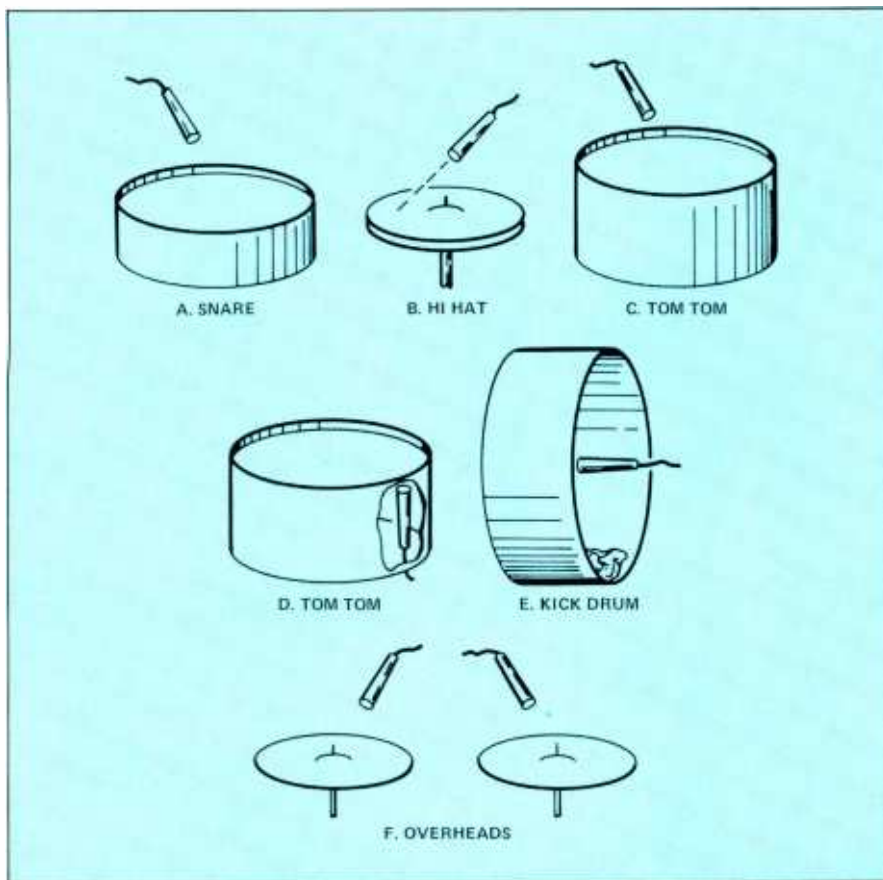

Figure 2. Typical microphone placements for a drum set.
- **Snare:** Bring the mic in from the front of the set on a boom. Place it about one inch above the rim, angled down to aim where the drummer hits (see *Figure 2*). You may want to aim the snare mic partly toward the hi-hat to pick up both instruments on one microphone.